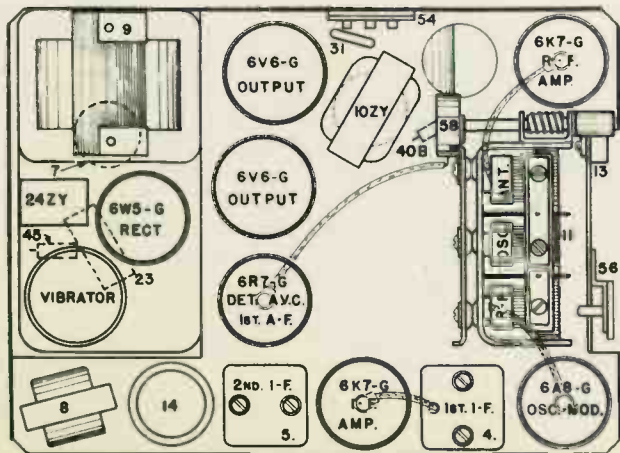

Fig. 2 Top View A-177
- (f) Adjust both trimmers located on the 2nd I-F transformer for maximum output. (Fig. 2).